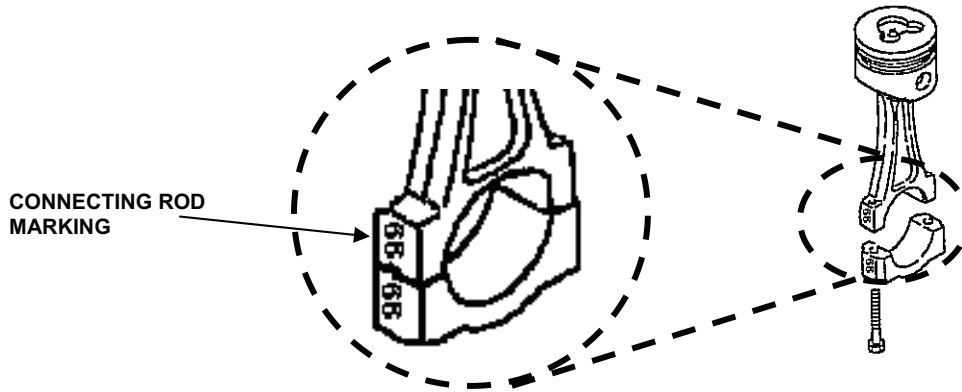

Figure 9. Connecting Rod Orientation.
4. Mate the connecting rod cap (Figure 9, item 6) to the connecting rod. Ensure to match up the markings.